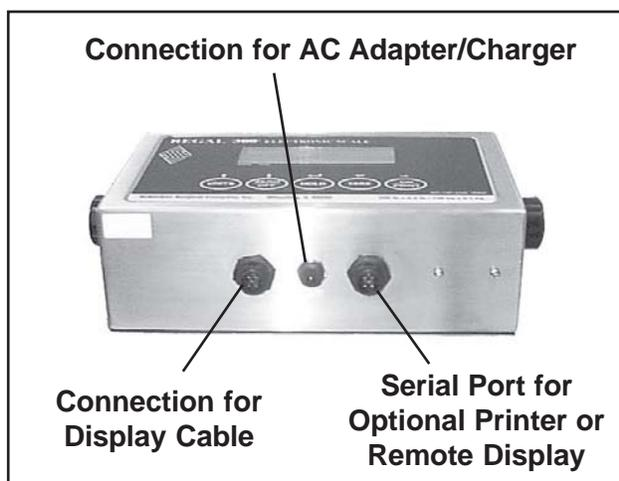

Figure 29. Display Console Cables
2. Remove all cables from the bottom of the console (Figure 29).
5. Connect the display cable to the appropriate terminal on the underside of the console (Figure 29).